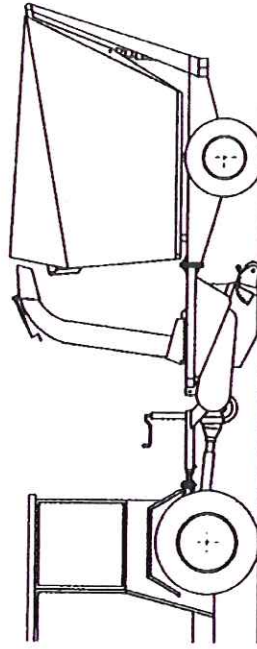

Fig. 9.
- Adjustment of the length and measuring up of the PTO-shaft is carried out when the machine is fitted in the yoke of the tractor. (Fig. 9)